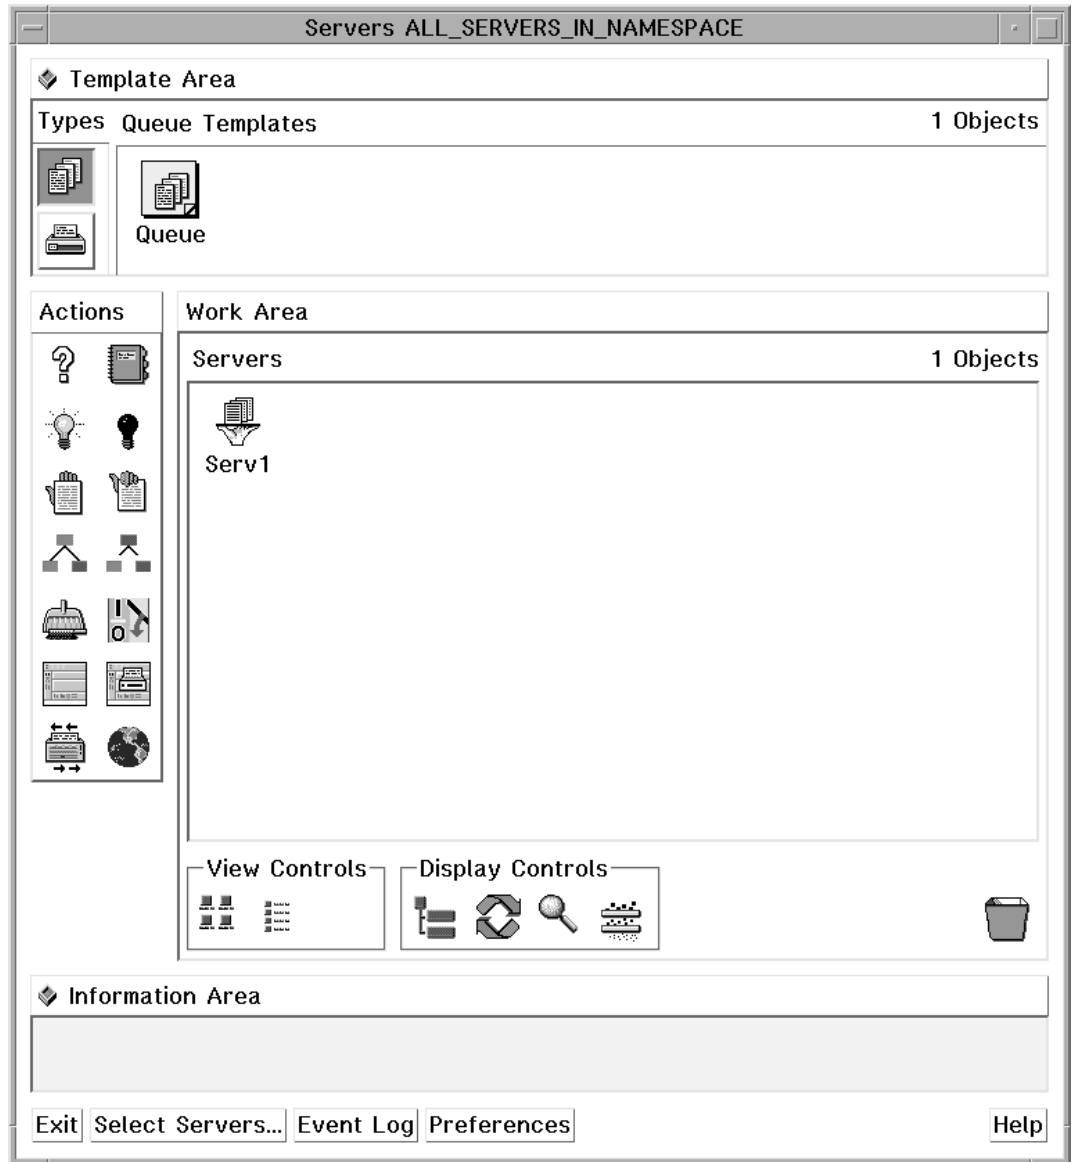

Figure 30. InfoPrint Servers Window (Advanced InfoPrint Administrator's GUI)
3. Double-click on the **Administration GUI** icon to open an InfoPrint Servers window similar to Figure 30 on page 61.
The application windows all have the same format. An application window contains an Actions area, a Work Area, and an Information Area. If you can create objects from the window, it also contains a Template Area. Both the Print Administration window of the basic InfoPrint administrator's GUI (Figure 28 on page 58) and the Servers window of the advanced InfoPrint administrator's GUI (Figure 30 on page 61) contain each of these areas.
The Work Area may be split into *panes* that contain different classes of objects. Figure 30 on page 61 shows a pane for servers in the Work Area. Figure 28 on page 58 shows three panes for logical destinations, actual destinations, and other objects.
When an object in a pane has related objects, you can open a new space within the pane that is called a *well*. A well is connected to the object and displays its related objects. Figure 30 shows a well for queues. The online help describes the various ways to open and close wells.